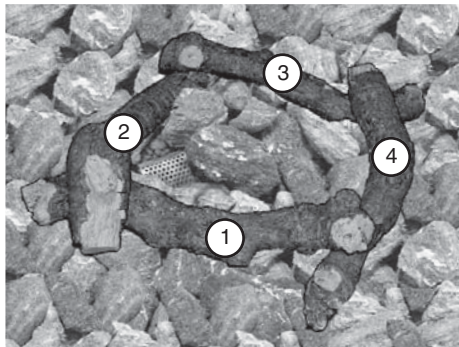

Fig. 16-2
2. Lay an end of Log #3 over the unattached end of Log #2 at a 90-degree angle (see Fig. 16-2).
3. Place one end of Log #4 over the open end of Log #3 and the other end underneath the open end of Log #1, creating a kind of square (see Fig. 16-2).